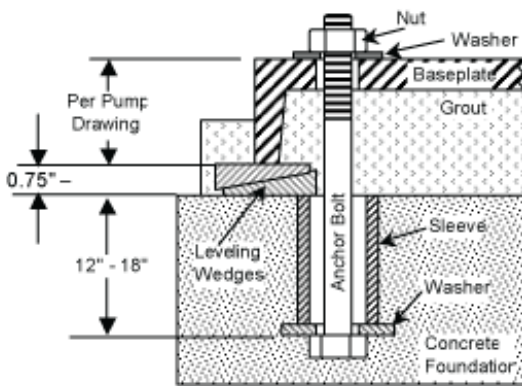

Figure 1
- Anchor bolts are usually sized 1/8" smaller than the anchor bolt hole size in the base. Calculate bolt length as indicated in Figure 1 at the left.